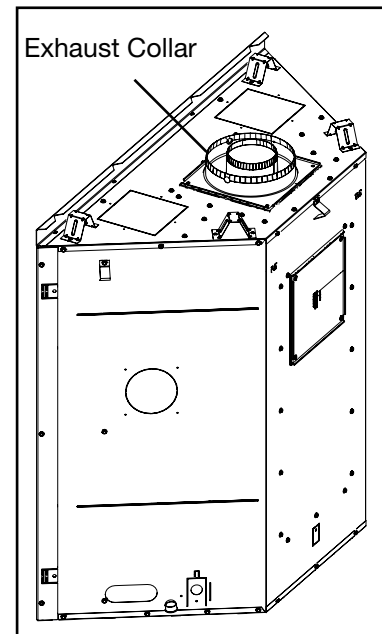

Fig. 3
- F.** From inside the firebox, install the 5" (127mm) exhaust collar with gasket and the exhaust outlet reducer plate up through the top of the firebox, and secure with the 4 hex head 3/4" black screws supplied in the manual baggie (**Fig. 3**).